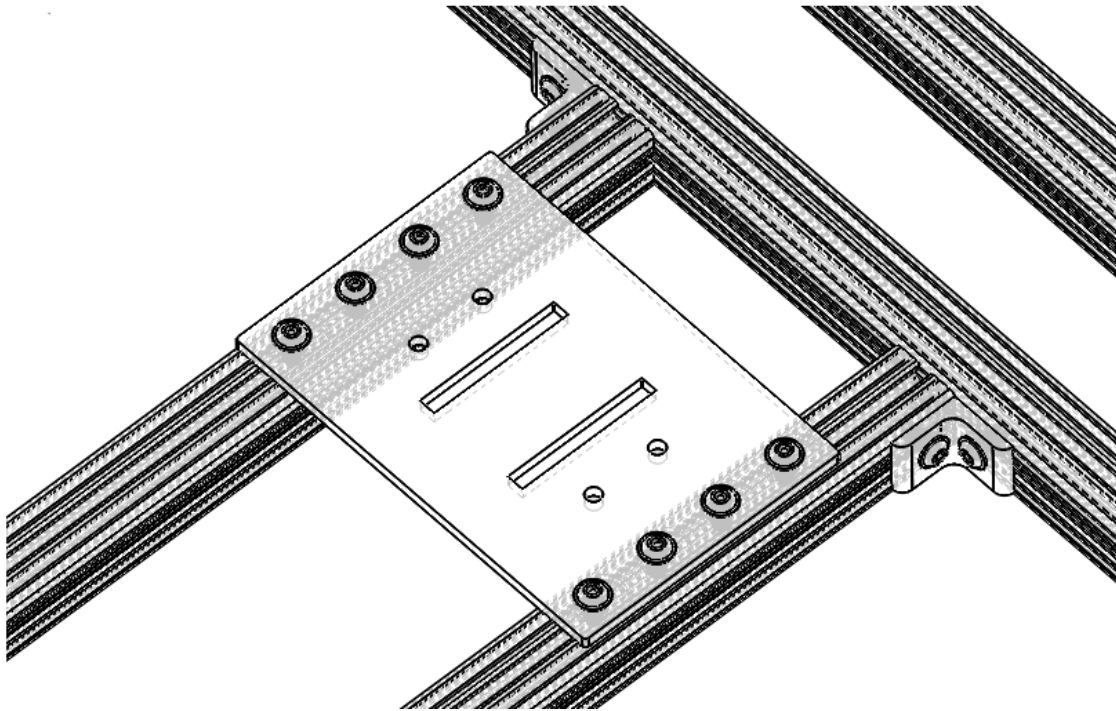

Fig. 3.15 : Fixture base plate (#KGT) fixed on the two 2 ft beam (#QDXE) with end feed fasteners (#TEBK)
- ❑ Insert four female parts of the end-feed fasteners (#YREC) on the groove into the slot of one of the beam (#QDXE). You may insert into any side of the beam, but must keep all four in the same side. Once inserted, turn the beam and make the side with the end-feed fastener parts facing up. As shown in Fig. 3.15.